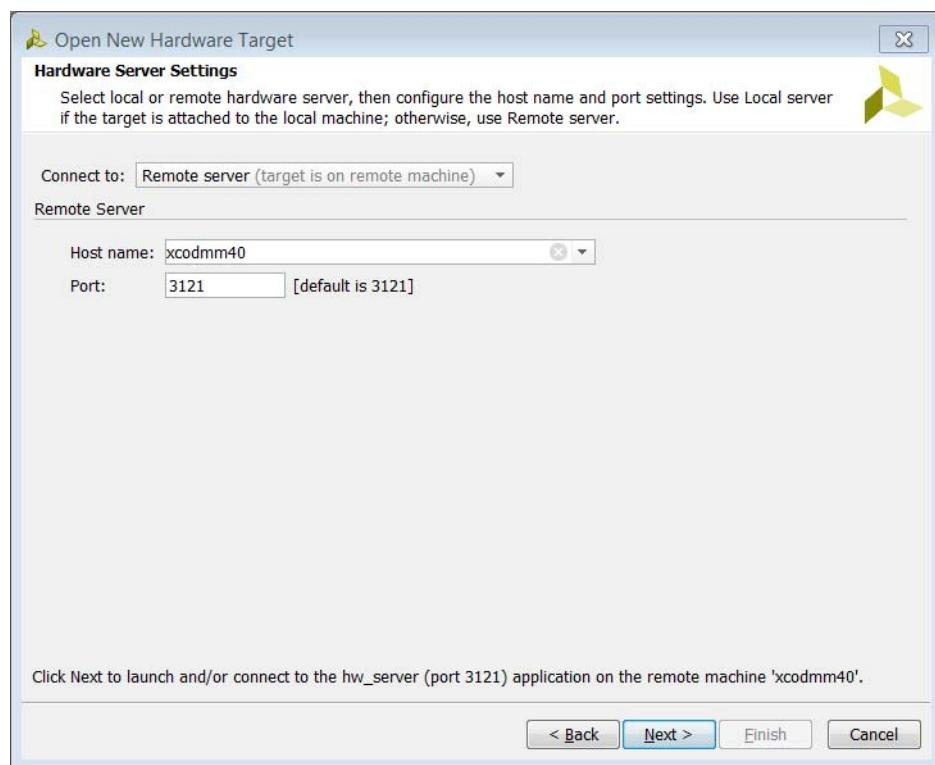

Figure 4-4: Using a Remote Hardware Server
- Remote server: Use this setting if your hardware target is connected to a different machine on which you are running the Vivado Lab Edition or Vivado IDE. Specify the host name or IP address of the remote machine and the port number for the hardware server (`hw_server`) application that is running on that machine (see Figure 4-4). Refer to Connecting to a Remote hw_server Running on a Lab Machine, page 115 for more details on remote debugging.